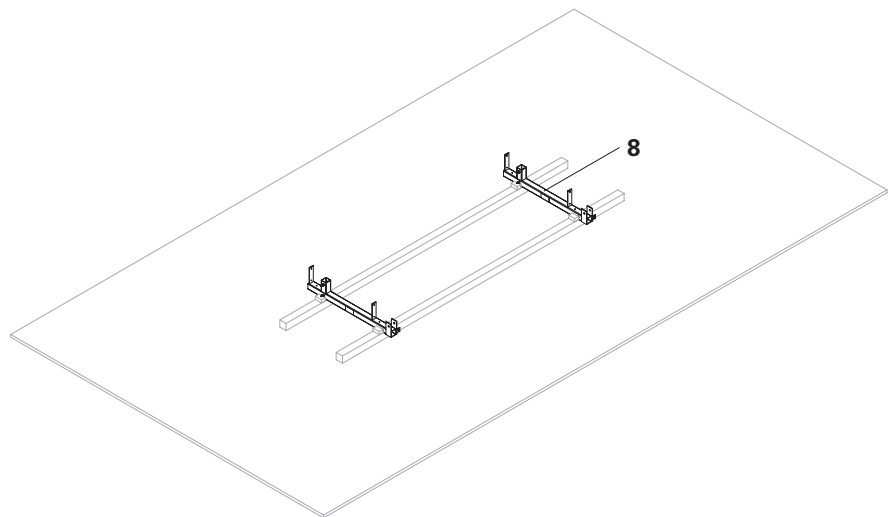

Fig. B6.04
1. Lay out the Finishing Platform Girders ACS (**8**) in the bracket spacing. (Fig. B6.04)